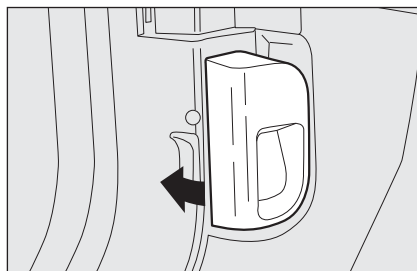

fig. 89
- ☐ pull the lever **fig. 89** in the direction of the arrow;